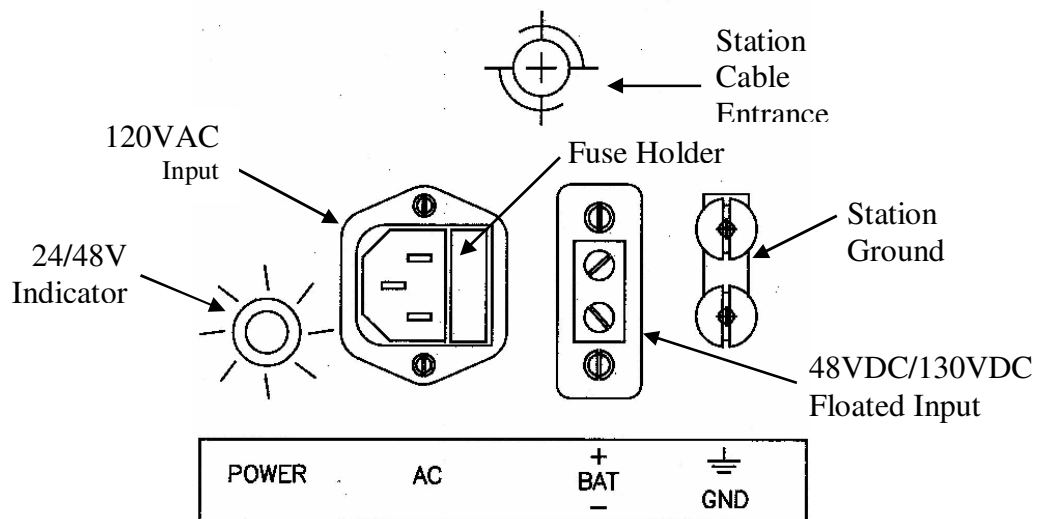

Figure 2: Station Connectors
- (a) The upper right side of the card shelf has a 1/ 2 inch–14 NPT threaded hole for the strain relief. It is shown in the Figure 2 below as the station cable entrance.
Just below the station cable entrance is a cluster of four items. See Figure 2.